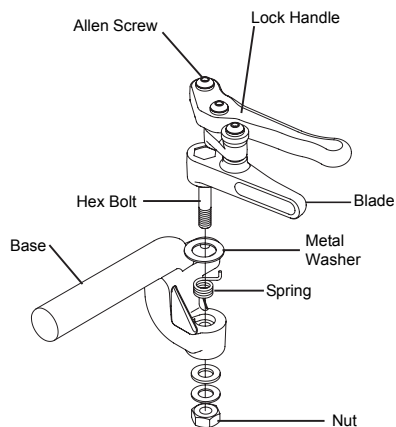
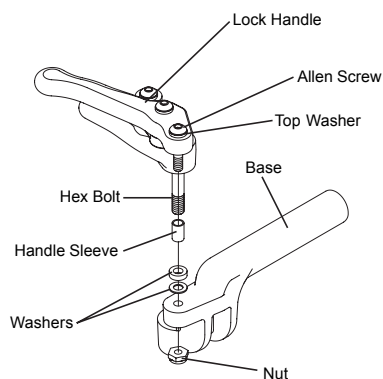

Figure 102
Figure 103
1. Remove the Allen Screw. See Figure 102. Carefully note the order of the washers on either side of the lock handle. See Figure 103.
2. Remove the nut. See Figure 102. Carefully note the order of the washers between the nut and base.
4. Remove and set aside the spring and metal washer shown in Figure 102.
5. Replace the spring and washer shown in Figure 102 with the black plastic washer that shipped with your wheelchair.
8. Reattach the handle to the base by inserting the Allen Screw removed in Step 1 through the top washer, the handle sleeve, the handle, the two middle washers, the base and the bottom nut. See Figure 103.